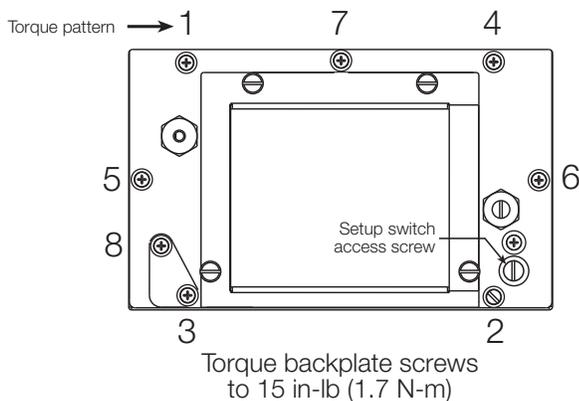

Figure 2-4. 390-DC Enclosure Backplate
- One 8-32NC x 7/16 fillister head screw (PN 30623). This screw occupies the hole below the setup switch access screw on the indicator backplate (see Figure 2-4 on page 6).
Once cabling is complete, position the backplate over the enclosure, reconnect battery cable, and reinstall the backplate screws. Use the torque pattern shown in Figure 2-4 to prevent distorting the backplate gasket. Torque screws to 15 in-lb (1.7 N-m).
To replace the CPU board, reverse the above procedure. Be sure to reinstall cable ties to secure all cables inside the indicator enclosure. Replace backplate and torque screws as shown in Figure 2-4.